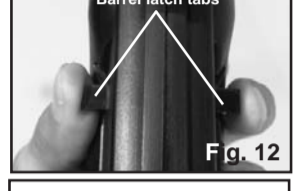

Fig. 12
- Press downward and forward on the barrel latch tabs (Fig. 12).